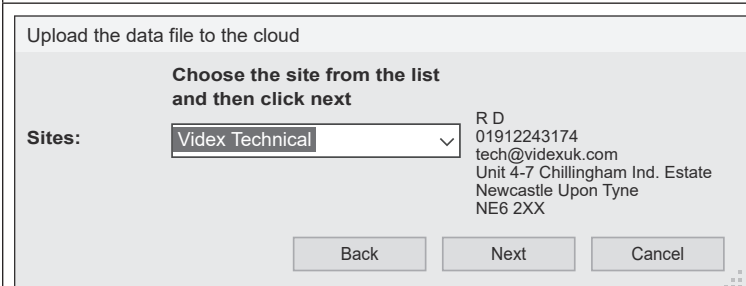

Fig. 108
4. Select the name of the site that was created in the **SMS Wizard PRO App** from the drop down list. The sites contact details will appear to the right of the drop down list, as shown in **Fig.108**.